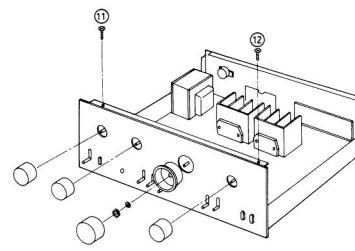

Fig. 3
4. Remove the two screws [fig. 3: ⑪ ~ ⑫] which hold the panel.